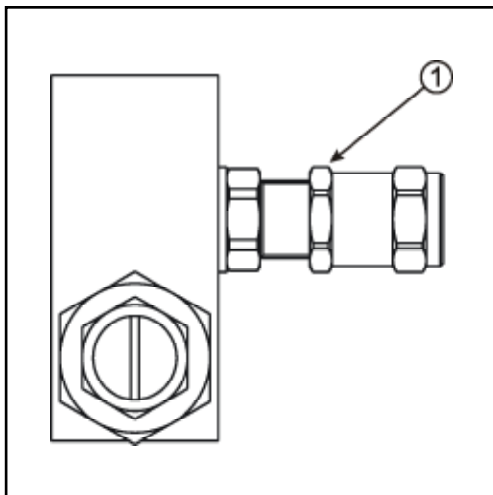

Figure 2-5
- 2.6.1 **Adjusting the Relief Valve.** Each pumping element incorporates an adjustable relief valve to protect the system against overpressure. The relief setting can be adjusted by loosening the locking nut (1) (See Figure 2-5) and turning the cap clockwise to increase the relief pressure, and counterclockwise to decrease the relief pressure, as required by the system application.